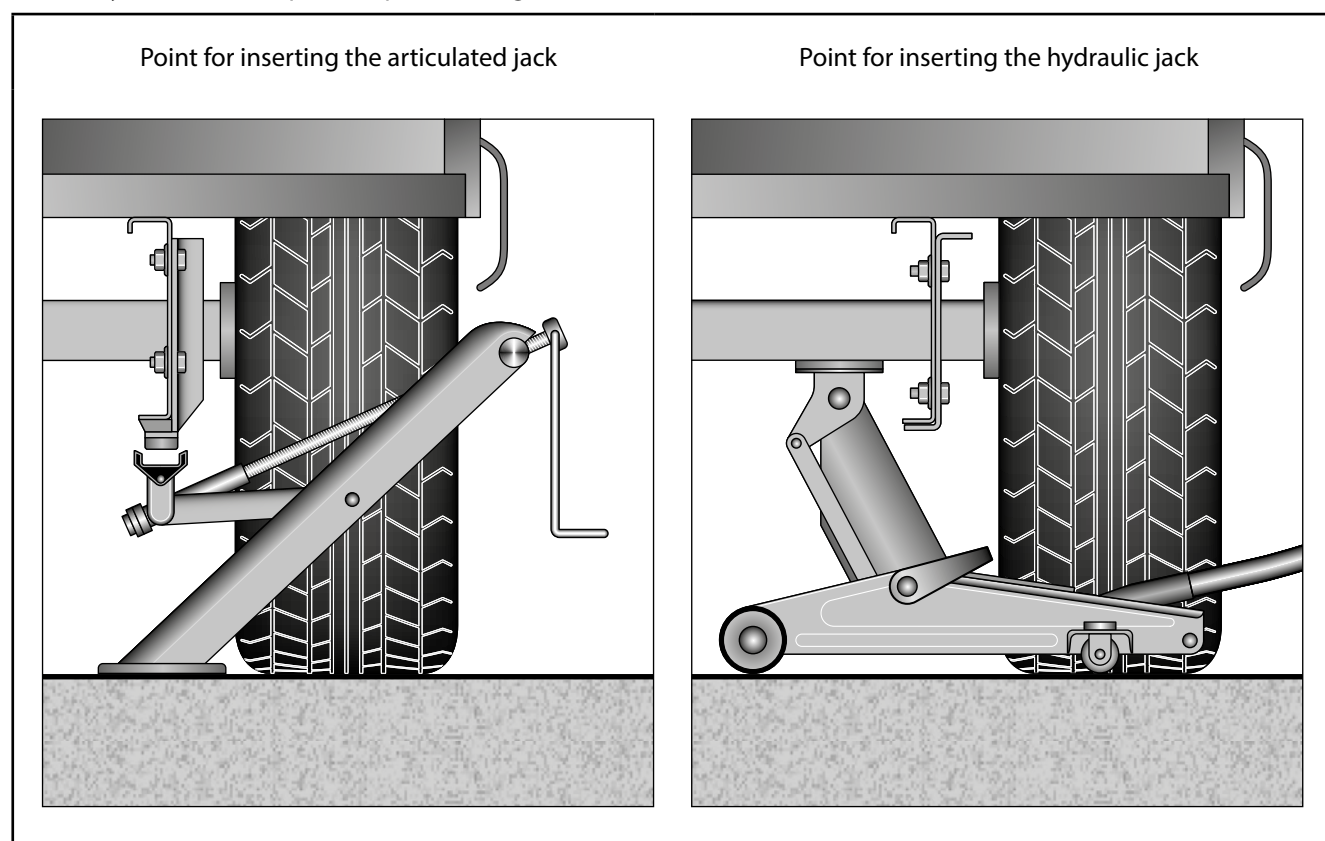

Fig. 92 Jacking up the caravan
4. The point for inserting the articulated jack is the reinforced claw on the longitudinal member of the chassis (see "Fig. 92 Jacking up the caravan"). Swivel jack and wheel spanner are stowed in the seat compartment.
5. The point for inserting the hydraulic jack is located directly underneath the axle (see "Fig. 92 Jacking up the caravan"). The jack and wheel spanner are stowed in the seat compartment.